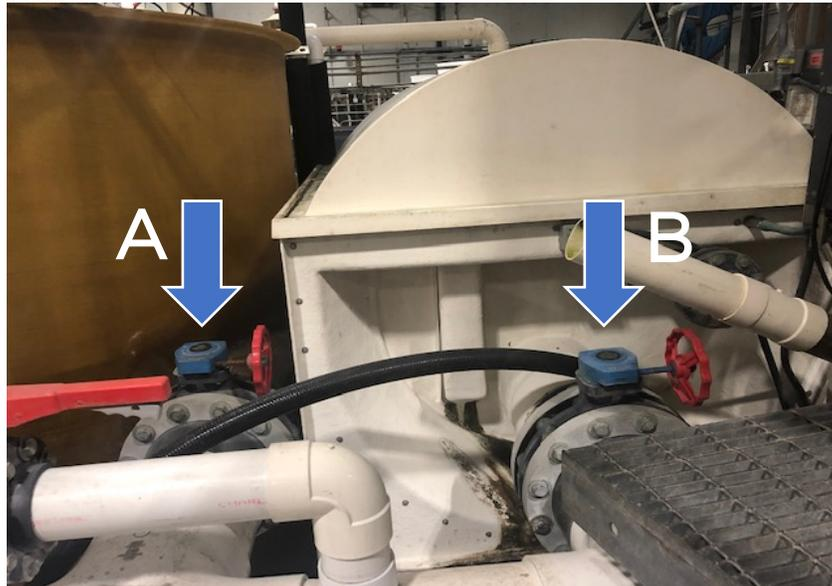

Figure 2. Valve to open bypass line to the sump (A) and valve to close drum filter inlet (B).
1. The microscreen filter can be bypassed when off-line or during general maintenance by opening the bypass valve to the pump sump and closing the inlet valve to the drum filter. Both bypass and inlet valves are large PVC butterfly valves with red and blue gear operators (**Figure 2**).